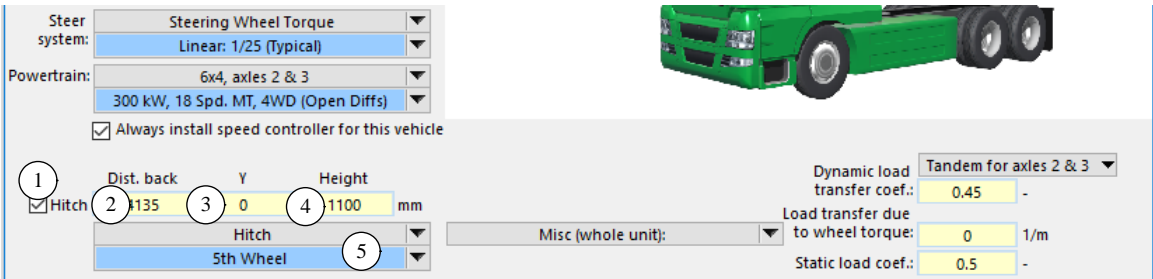

Figure 1. Setting the hitch location for a TruckSim 3-axle lead unit.
Hitch connections may be specified on one of several screens. In TruckSim, a trailing hitch location and linked dataset for hitch settings may be set on a **Vehicle: Lead Unit** screen (Figure 1).
The capability of changing the value of OPT\_HITCH\_TYPE to 3 or 4 is supported because these hitches require information associated with the trailer sprung mass that is typically specified on a sprung mass screen (e.g., ③, Figure 3, page 3), whose settings are typically read by the VS Math Model after the hitch location parameters were set from a dataset for the leading unit (e.g., Figure 1 and Figure 2).